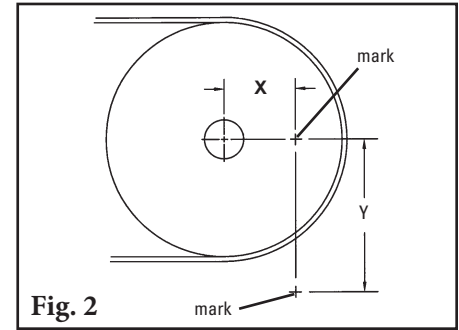

Fig. 2
- Pole location too far out - The initial blade/belt contact gap will be larger than 1/8" (3 mm) (Fig. 2). If the blade is correctly tensioned it may flip through before it is fully worn. If tensioned too lightly, it will develop the "smile effect" quickly and not clean properly.
2. **Lay out the dimensions on the chute wall.** Measure out the X dimension horizontally from the center of the pulley shaft and mark. (**NOTE:** It may be easier to put a level on top of the pulley shaft, draw a horizontal line and then measure down half the diameter of the shaft and make a line from the front of the shaft. Now subtract half the pulley shaft diameter from the X coordinate and measure on the line and make a mark.) Then measure down vertically the Y dimension and mark. This is the correct position for the center of the cleaner pole (Fig. 2). Lay out and mark the same dimensions on the other side.